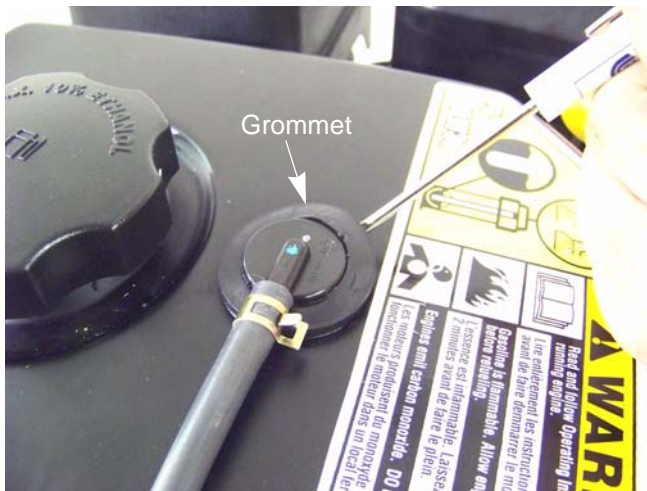

Figure 4.18
1. Gently pry the grommet from in between the roll over valve and the fuel tank. See Figure 4.18.